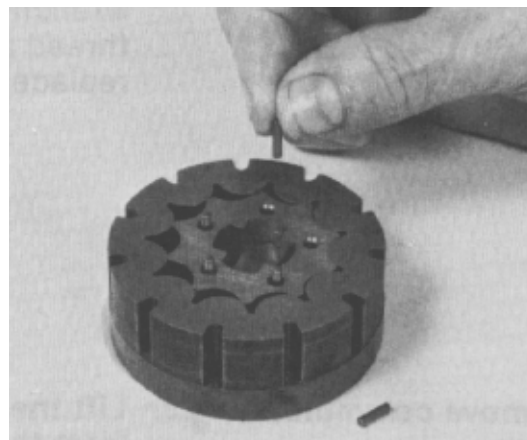

Figure 67
33. Remove the five alignment pins (Fig. 67).